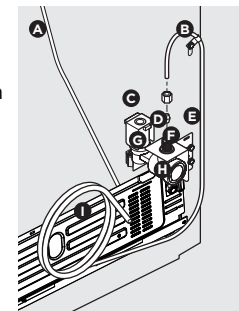

Figure 1
4. **If you use copper tubing**, slide brass compression nut, and then ferrule (sleeve) onto water supply line. Push water supply line into water valve inlet as far as it will go (1/4 in. / 6.4 mm). Slide ferrule (sleeve) into valve inlet and finger tighten compression nut onto valve. Tighten another 1/2 turn with a wrench; **DO NOT** overtighten. See Figure 1.